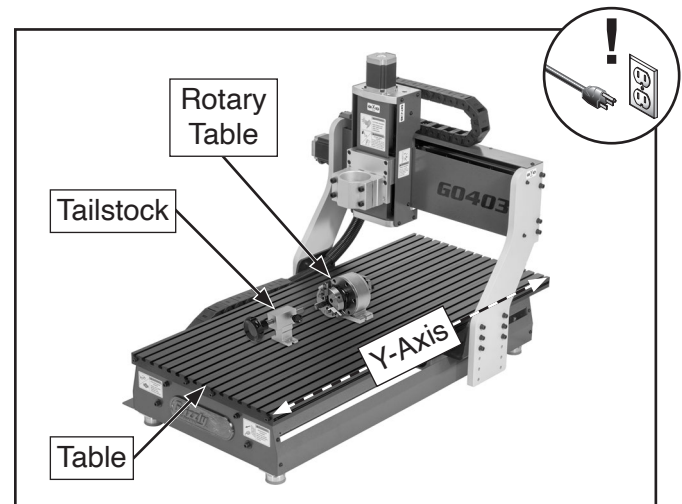

Figure 5. Example of rotary table and tailstock placed along Y-axis.
3. Place rotary table and tailstock along Y-axis of Model G0403 table at desired location (see **Figure 5**).